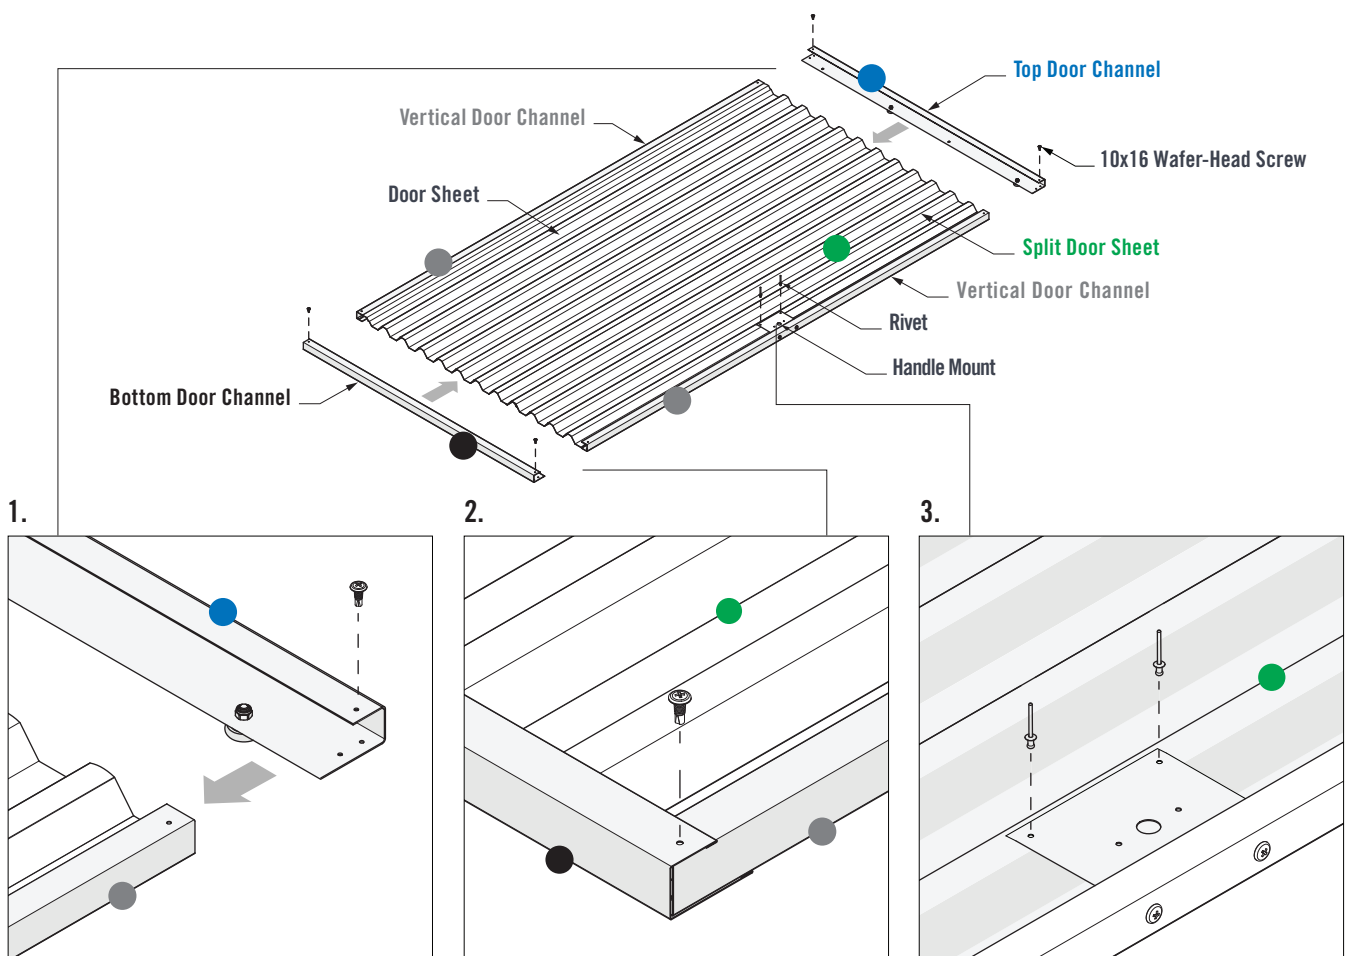

FIGURE 5.5
1. Fit the Vertical Door Channels over the sides of the door sheets, then fit the **Top** and Bottom Door Channels over the door sheet ends. Ensure the lip of the **Top** and Bottom Door Channels fit over the Vertical Door Channels (Figure 5.5).
2. Fasten one 10x16 Wafer-Head Screw through the pilot holes in the corner of each **Top** & Bottom Channel and into the Vertical Door Channels (Figure 5.5).
3. Crest-fix two 10x16 Wafer-Head Screws through the pilot holes in the Handle Mount and into the **Split Door Sheet** (Figure 5.5).